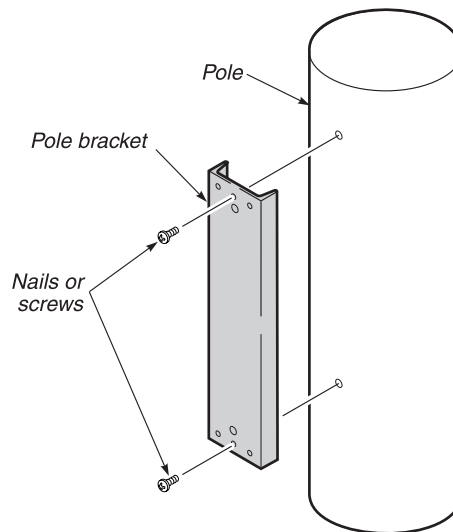

Figure 10. Mounting the Pole Bracket
- 1 Mount the pole bracket to the pole with screws or nails (not provided). Position the screws or nails through the small holes near the top and bottom edges of the bracket (Figure 10).